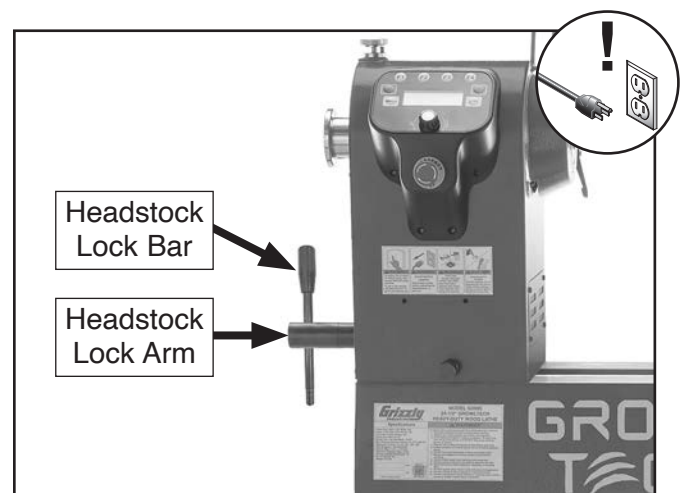

Figure 44. Location of headstock locking components.
2. Insert headstock lock bar into lock arm and turn counterclockwise to loosen headstock clamping plate (see **Figure 44**).